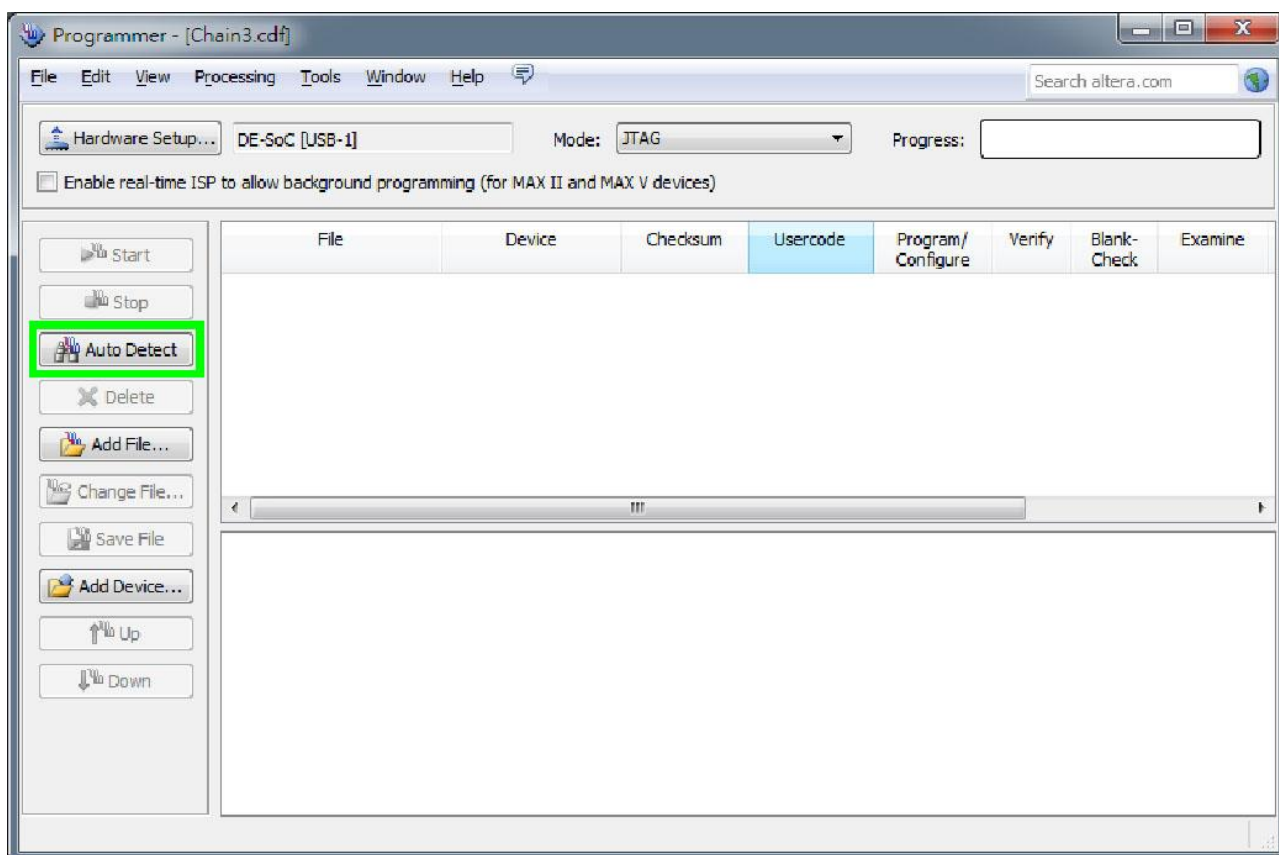

**Figure 3-2 Path of the JTAG chain**
**Figure 3-2** illustrates the JTAG chain on DE1-SoC board.